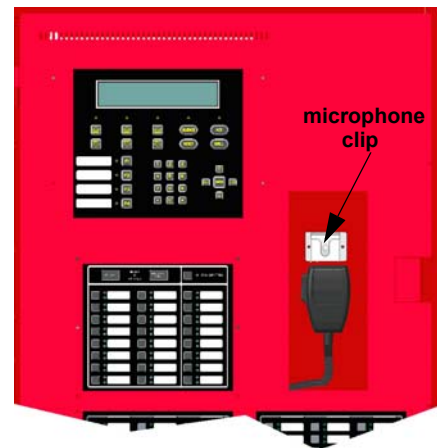

Figure 1.3 Hang Microphone into the Microphone Clip
1. Clip the microphone into the microphone clip. See Figure 1.3.